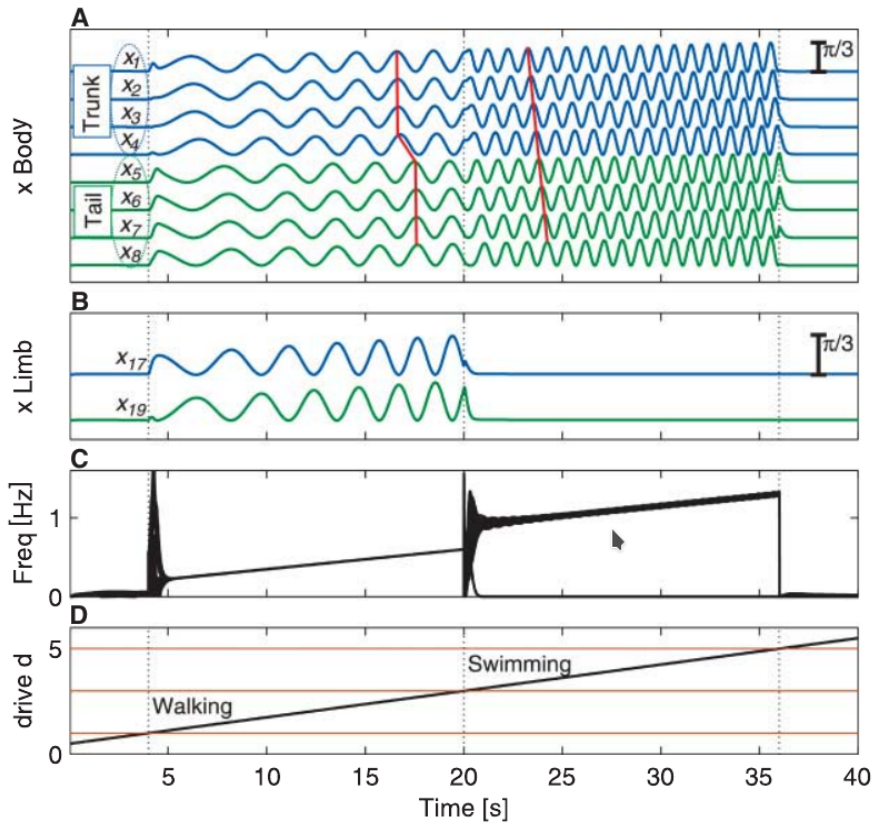

Figure 4: Oscillator patterns from [3], see [3] for details
- Part B (Network Dynamics Validation):** Implement a drive that linearly increases from 0 to saturation (e.g., 0 to 6 over 20 seconds). Your plots should reproduce patterns similar to Figures 4 and 5. **Hint:** The state for the network ODE is of size 64 where the first 32 elements correspond to the oscillator phases ϕ_i and the last 32 elements correspond to the amplitude r_i . The initial state is set in the init of `network.py::SalamanderNetwork`.